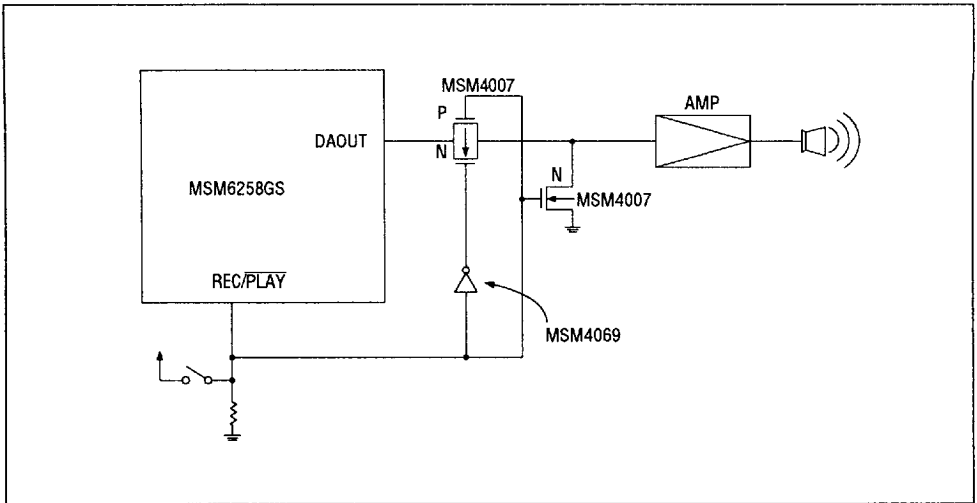

Figure 33 Example of Mute Circuit for Recording
- Figure 33 shows an example of a mute circuit used for recording with MSM6258.